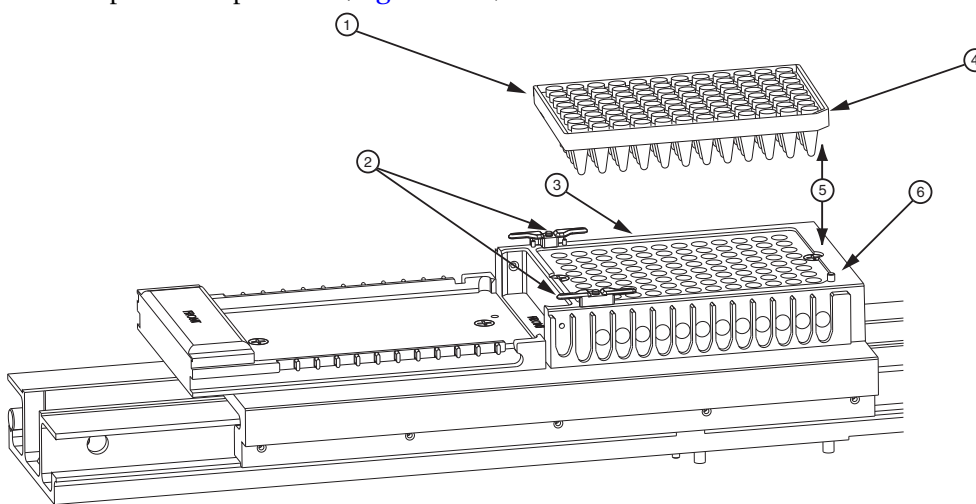

Figure 9.14 Loading the Sample Plate
- Align the sample plate guide pin with the notched corner of the sample plate and gently lower the plate into position (Figure 9.14).